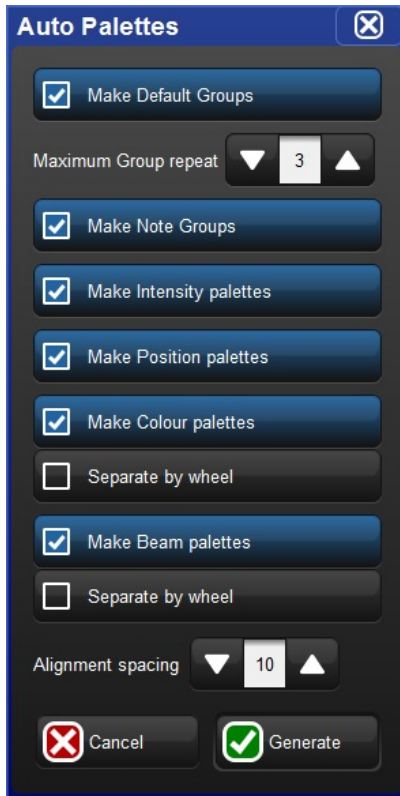

Figure 5.10. The Auto Palettes window
2. Click on the Auto Palettes button (located in the toolbar at the top of the Fixture window) and select from the options in the Auto Palettes window; see *Figure 5.10, “The Auto Palettes window”*.